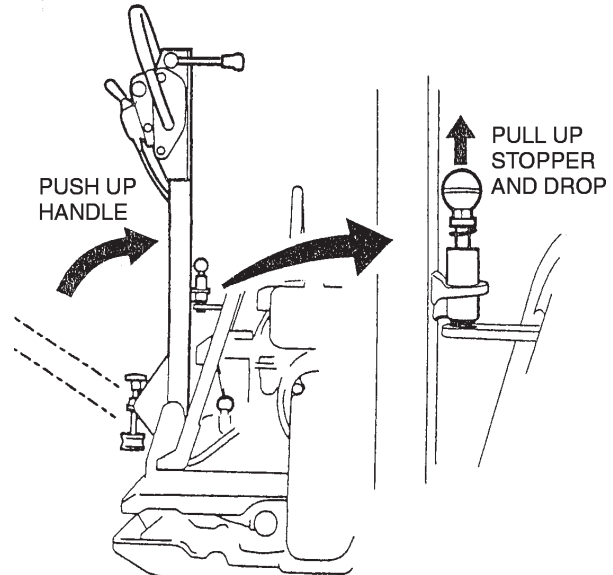

Figure 17. Stowing the Handle
1. Push up the handle (Figure 17).